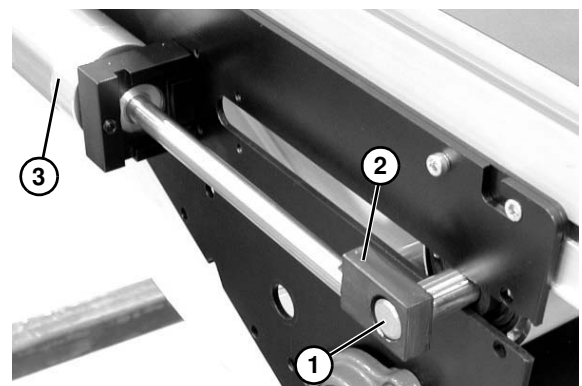

Figure 156
8. Push shaft (**Figure 156, item 1**) through block (**Figure 156, item 2**) on opposite side of center drive, and slide block toward air cylinder (**Figure 156, item 3**).